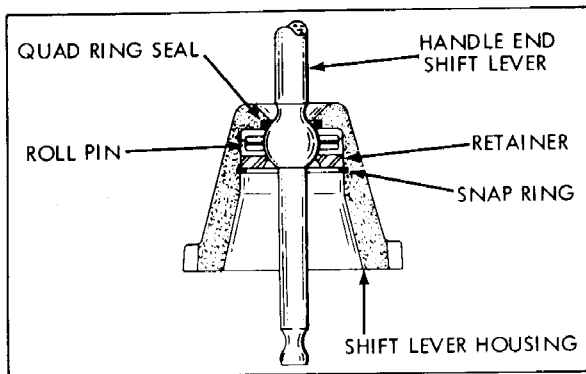

Figure 25 - Shift Lever
- (b) Use the proper compressing type tool for removing the snap ring. Loosen the vise and disassemble the pieces (Fig. 25).
- (c) Remove the shift lever from the shift lever housing. Examine the roll pin in the ball of the shift lever (Fig. 25) if bent or worn, replace. When inserting a new roll pin in the ball, position so that equal lengths protrude from both sides of the ball.